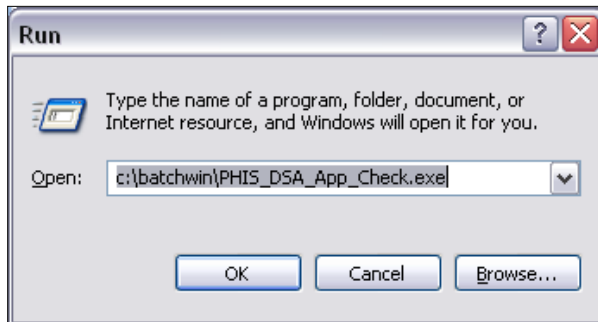

Figure 21: PHIS_DSA_App_Check.exe File
2. In the Open field, type c:\batchwin\phis_dsa_app_check.exe (see Figure 21).